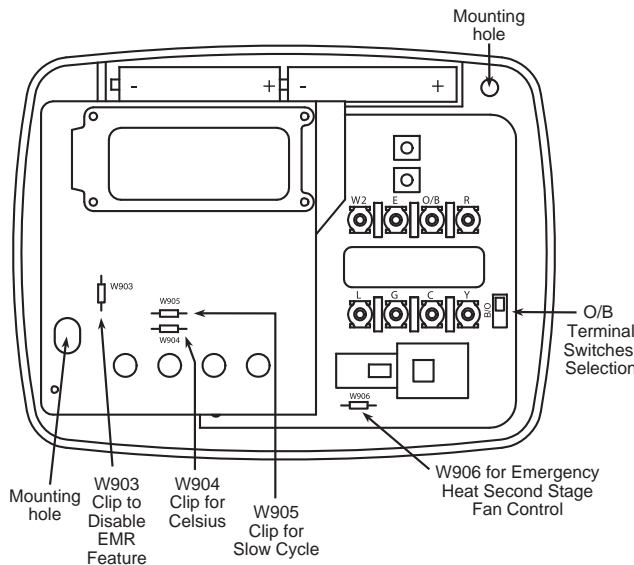

Figure 1. Thermostat base
5. Fasten base loosely to wall, as shown in fig. 1, using two mounting screws. Place a level against bottom of base, adjust until level, and then tighten screws. (Leveling is for appearance only and will not affect thermostat operation.) If you are using existing mounting holes, or if holes drilled are too large and do not allow you to tighten base snugly, use plastic screw anchors to secure subbase.
If your emergency or auxiliary system will energize the blower, then jumper W906 on the thermostat base must be cut (see fig. 1). If your emergency or auxiliary heat system requires that the thermostat energize the fan circuit, do not cut jumper W906.
To disable EMR, clip jumper W903 (see Fig. 1).
This thermostat does not require batteries to operate. The 2 "AAA" alkaline batteries are for the thermostat to remember the programming if AC voltage is lost. If the display shows **BATT** when AC power is not present, the batteries are low and should be replaced with fresh "AAA" Energizer® alkaline batteries. To replace the batteries, install the batteries along the top of the base (see fig. 1). The batteries must be installed with the positive (+) ends to the right.